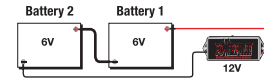
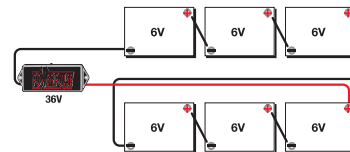

Fig. 2
Fig. 4
On step 2 connect the positive wire to the positive terminal on Battery 1 and the negative wire to the negative terminal on Battery 2 (see Fig. 2).
To install, follow step 1 under the 12-Volt PowerPulse section. On step 2 connect the positive wire to the positive terminal on the first battery and the negative wire to the negative terminal on the last battery in the set (see Fig. 2 for an example of how a 12-Volt PowerPulse is installed on two (2) 6-volt batteries and Fig. 4 for a 36-volt PowerPulse on six (6) 6-volt batteries).